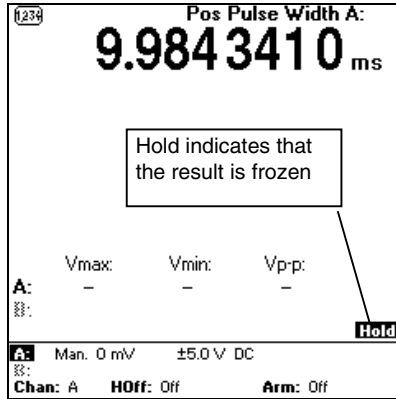

Figure 33 Single Shot.
1. Press **HOLD RUN** so that the MultiFunction Counter is in hold state (HOLD is shown in the display above the horizontal line separating the results screen from the input settings field, see Figure 33).